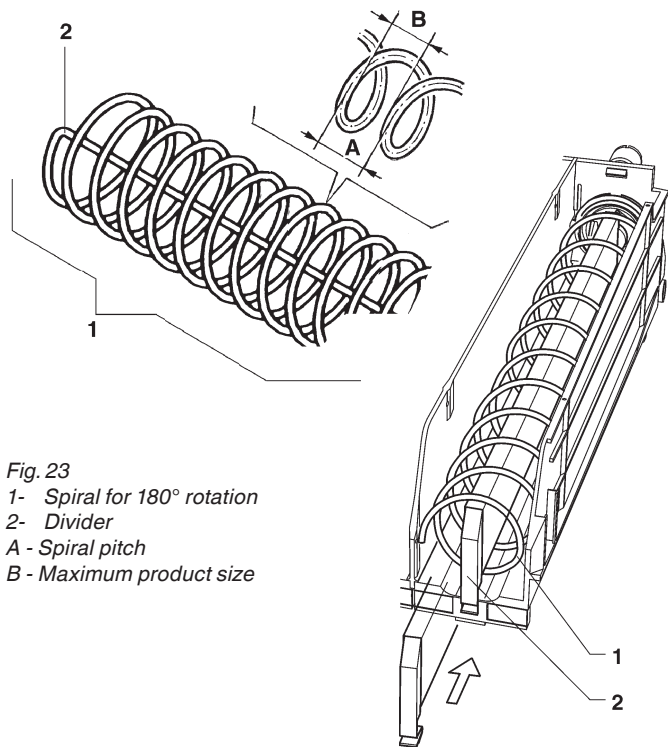

Fig. 23
- mounting a spiral complete with a divider (see fig. 23)
You can also insert a divider between already-existing spirals (see fig. 23).
The products can be dispensed without any problem when the spiral end is at the bottom and in the middle. If the pitch and sense of spirals is known, the table here below and of fig. 23 will help you calculate the maximum size and the number of dispensable products.